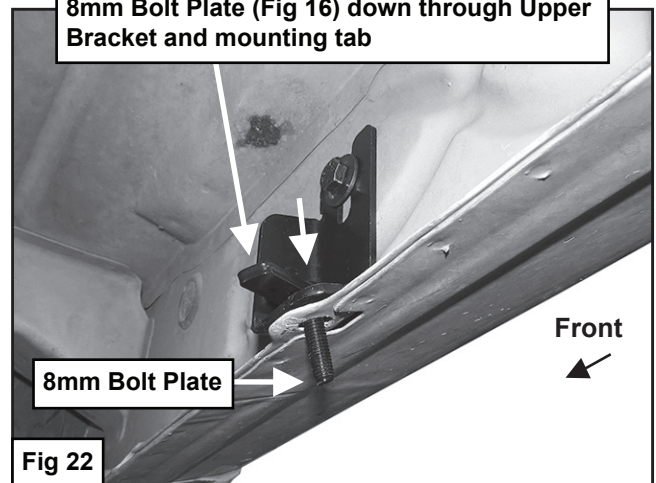

Fig 22
Insert the 8mm Bolt Plate down through the hole in the Upper Bracket and mounting tab, (Figs 21-22). Attach the Lower Bracket to the bottom of the body and Bolt Plate with (1) 8mm Flat Washer and (1) 8mm Nylon Lock Nut, (Figs 22 & 27). Leave loose at this time.